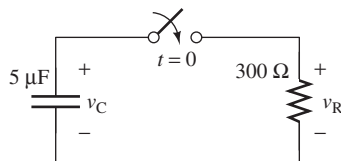

FIGURE P5.7 Circuit for Problem 5.7.
- 5.7 (A) Find an expression for the power supplied by the capacitor in Figure P5.7, as a function of time. $v_C(0) = 5$ V. (The switch closes at $t = 0$.)